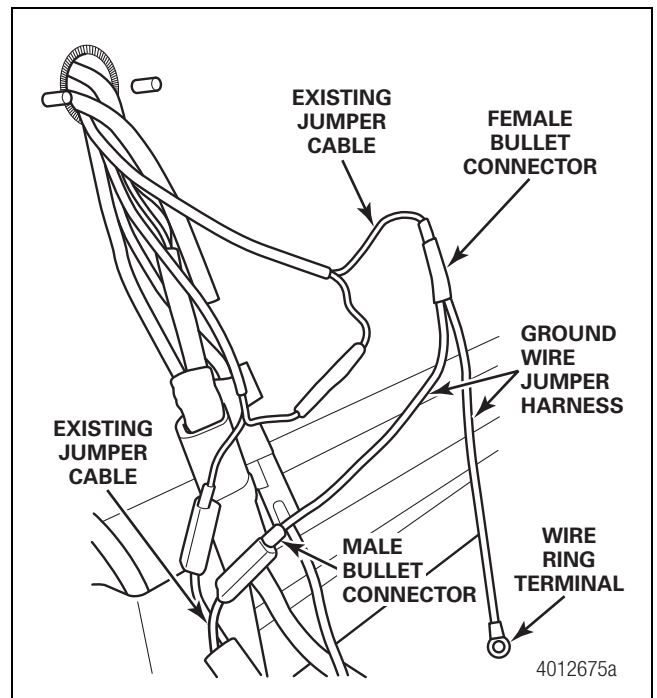

Figure 6
4. Install the new ground wire jumper harness into the open bullet connections on the white wire. Figure 6.